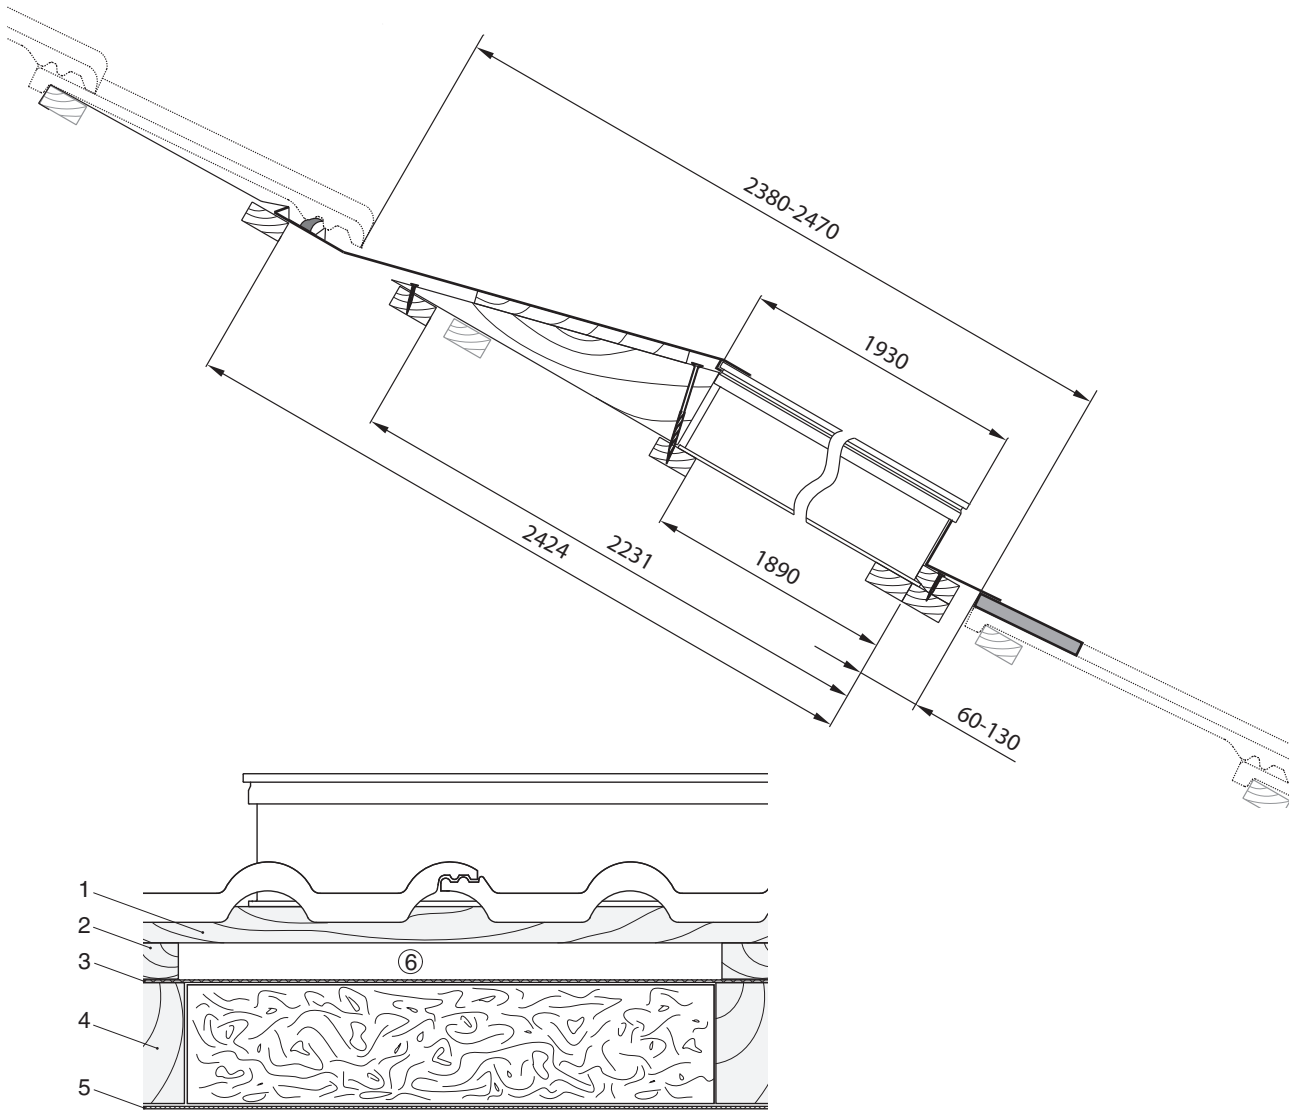

Figure 8 In roof installation longitudinal section (upper drawing) and cross section (lower drawing).
- A waterproof and diffusion reducing foil with at least 24 mm counter-lathing must be present to assure proper ventilation. If proper backside ventilation cannot be provided via ridge and eaves, a venting tile must be installed, approx. 90 cm above and below the collector field (see also figure 8, lower part).